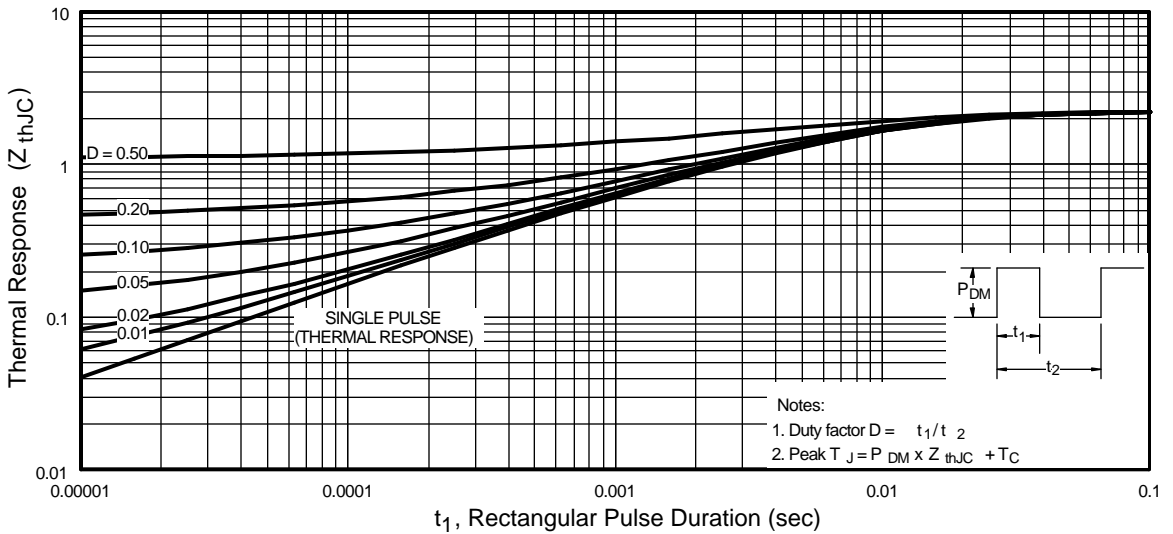

Fig 11. Maximum Effective Transient Thermal Impedance, Junction-to-Case
① Repetitive rating; pulse width limited by max. junction temperature. (See fig. 11)
② Starting $T_J = 25^\circ\text{C}$, $L = 3.2\text{mH}$